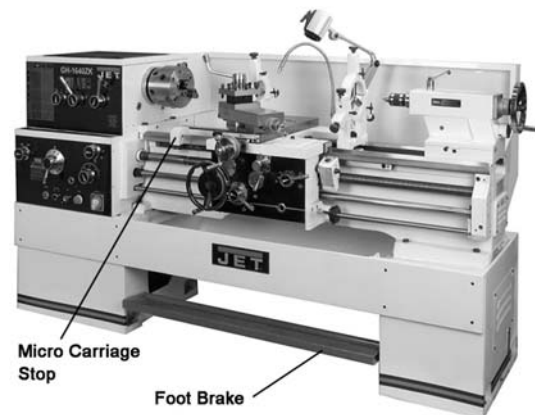

Figure 23 – Other controls
20. **Foot Brake (Figure 23):** For emergency shutdown of all lathe functions. The connecting rod mechanism is in the bed stand, and activates a brake strap at the main motor. **(Caution:** Lathe still has power.) *The foot brake is not intended for normal stopping of the lathe. Overuse can result in hastened wear of brake parts.*
21. **Micro Carriage Stop (Figure 23):** Can be used during manual feed operation to limit carriage travel. **NOTE:** *It is not intended to stop the carriage during automatic feed.* The carriage stop can be repositioned along the bed by loosening the two screws underneath the stop.